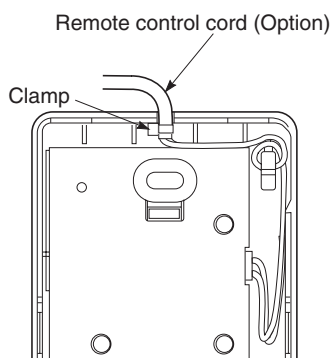

Fig. 1-101
- (5) After arranging the wiring on the printed circuit board as shown in Fig. 1-101 so that it is contained within the signal receiving unit, attach the back case. At this time, arrange so that the head of the clamp faces the side.
- (6) Remove the cover plate and install the signal receiving unit using the 2 wood screws.
- (7) Fasten to the wall using the cord clip (supplied).
- (8) Reinstall the cover plate.